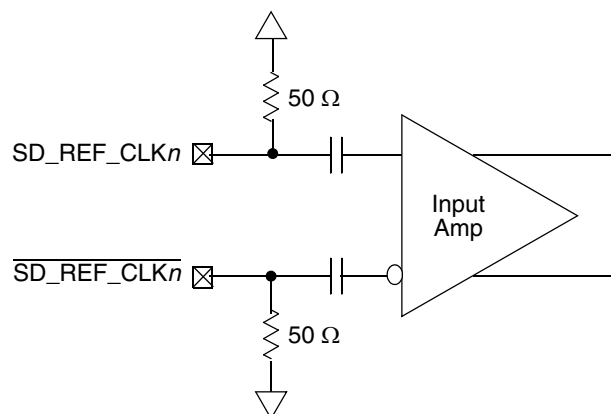

Figure 37. Receiver of SerDes reference clocks
- The SD_REF_CLKn and $\overline{SD_REF_CLKn}$ are internally AC-coupled differential inputs as shown in Figure 37. Each differential clock input (SD_REF_CLKn or $\overline{SD_REF_CLKn}$) has on-chip 50- Ω termination to SGND followed by on-chip AC-coupling.